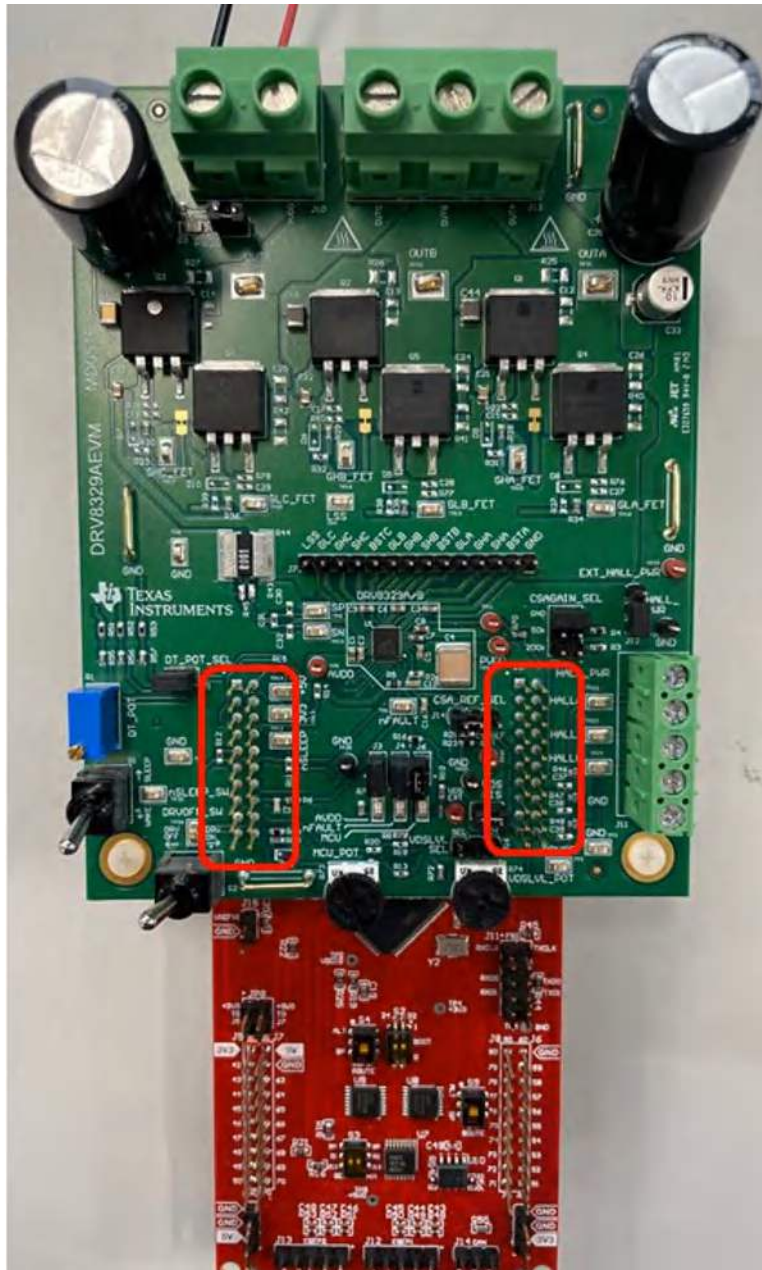
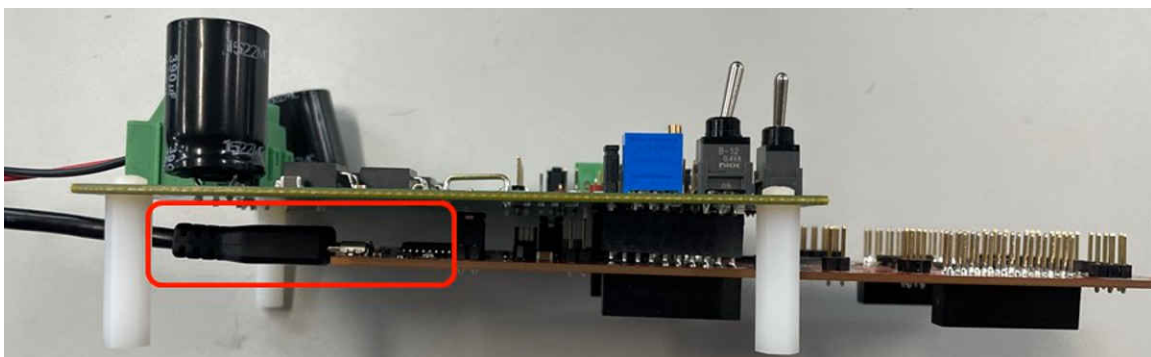

Figure 4-3. DRV8329AEVM on headers J1/J3 and J2/J4 of LaunchPad
Figure 4-4. Micro-USB plugged into LaunchPad
3. Mate the DRV8329AEVM onto the top half of the LAUNCHXL-F280049C (LaunchPad Headers J1/J3 and J2/J4) as shown in Figure 4-3. The motor and power connectors should face the same direction as the Micro-USB connector on the LaunchPad.
6. Connect a Micro-USB cable from the computer into the Micro USB connector on the top of the LAUNCHXL-F280049C as shown in Figure 4-4.
Figure 4-3 and Figure 4-4 shows where the Micro-USB cable is plugged in to the LAUNCHXL-F280049C to provide communication between the LaunchPad firmware and GUI as well as the correct installation of the DRV8329AEVM to the J1/J3 and J2/J4 headers of the LaunchPad.